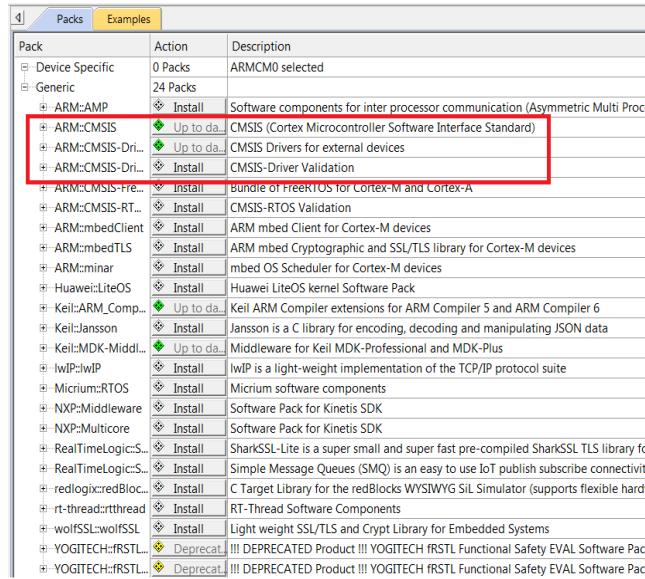

Figure 14: CMSIS Package Installation successful
2. When the install is complete, a list of packs is shown, see **Figure 14**. If you do not see this list: